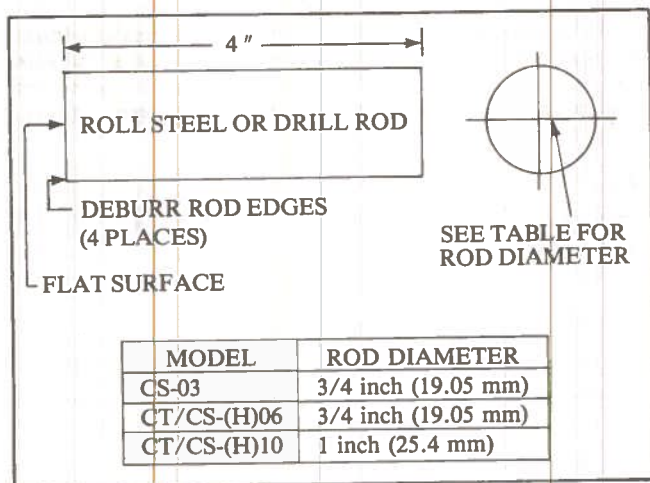

Figure 3. Disassembly Tool to Remove Seat (19) from Body (21)
1. A piece of drill rod or roll steel to remove the seat within the valve body. See Figure 3.
6. Inspect seat (12) for nicks, scratches, and washout. If the seat shows evidence of damage, replace with a new cover subassembly. DO NOT attempt to remove seat (12) from cover (14).
7. If seat (12) is in good condition, remove plug (9), seal (10), and spacer (11). (NOTE: Spacer (11) exists on C*-10-*** models only.)
8. Remove four screws (13) from cover (14), then disassemble the cover from body (21).
9. Remove parts (15) through (18) from body (21). Inspect piston (18) sealing surface for heavy scratches and other damage. Discard seal (15).
10. If piston (18) is damaged, turn valve body (21) in vise so tank port faces up. Insert a rod (reference Figure 3) into the tank port against seat (19). Tap on rod end with hammer and remove the seat (19) from body (21). For C*-H**30/50 models, insert rod against sleeve (20) and remove sleeve and seat at the same time.